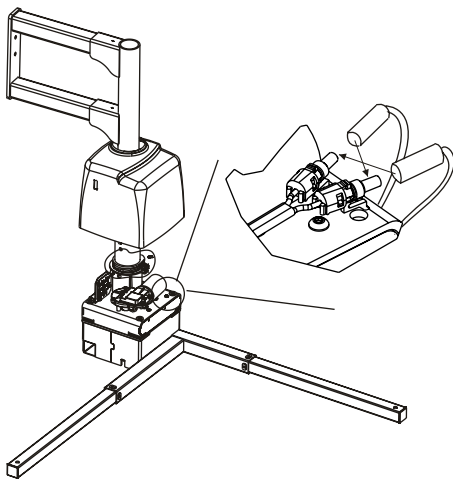
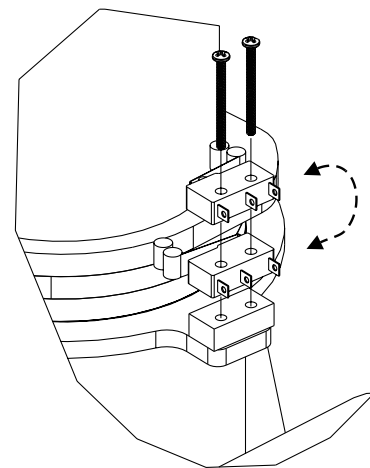

Figure 21-2
Figure 21-3
4. Reversing Rotation: If installing the lift on the passenger side, or the post rotates in the wrong direction, simply reverse the wires at the rotational motor. [Figure 21-2] You may also need to flip the rotation cut-off switches to properly stop the motor. [Figure 21-3]